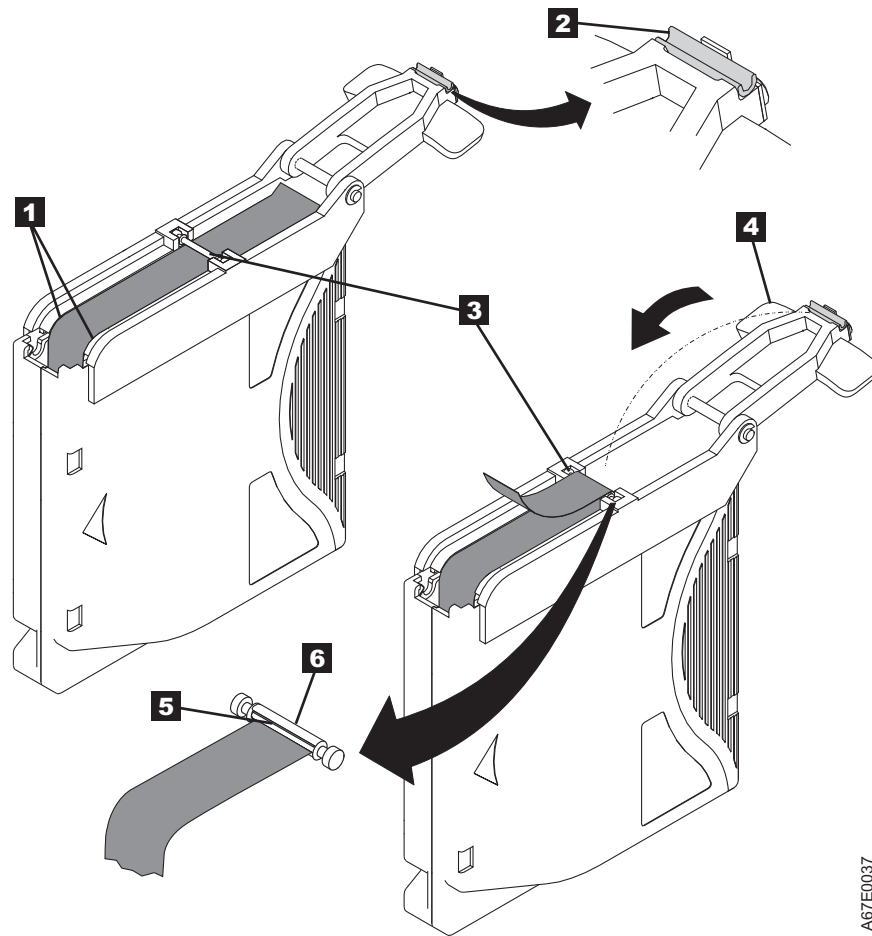

Figure 4-15. Attaching the leader pin to the tape
7. Position the tape in the alignment groove of the leader pin attach tool (see **1** in Figure 4-15 on page 4-17).
8. Place a new C-clip into the retention groove **2** (Figure 4-15 on page 4-17) on the leader pin attachment tool and make sure that the clip's open side faces up.
9. Place the leader pin (from step 6) into the cavity **3** (Figure 4-15 on page 4-17) of the leader pin attach tool.
10. Fold the tape over the leader pin and hold it with your fingers (see Figure 4-15 on page 4-17).